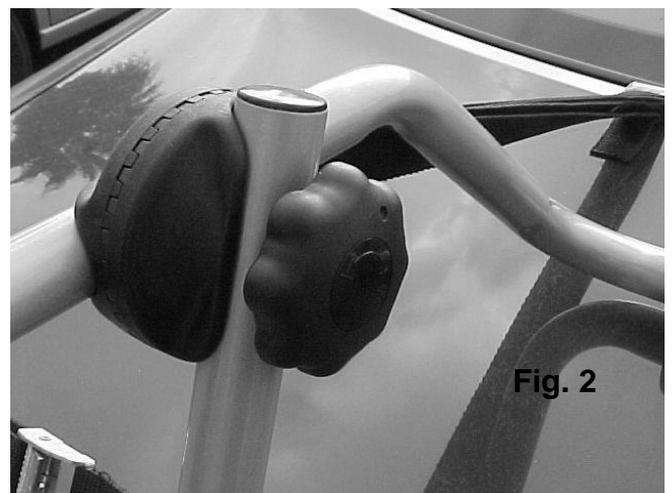

Fig. 2
1. After removing your Express rack from the box, loosen the black hubs by turning the hub adjustment knobs counter-clockwise. This will allow the two sections of the rack (main frame & support arms) to move relative to one another for correct rack placement on your vehicle. Note how the teeth on the hubs interlock into place. See Fig. 2.
3. Once the proper position has been determined by adjusting the rack's support arms and main frame, tighten the hubs by turning both black knobs in a clockwise (right hand thread) direction, until snug and secure. Be sure that the teeth of the black hubs are interlocked evenly, so that the support arms are perfectly parallel. Do not over-tighten the knobs. See Fig. 2.